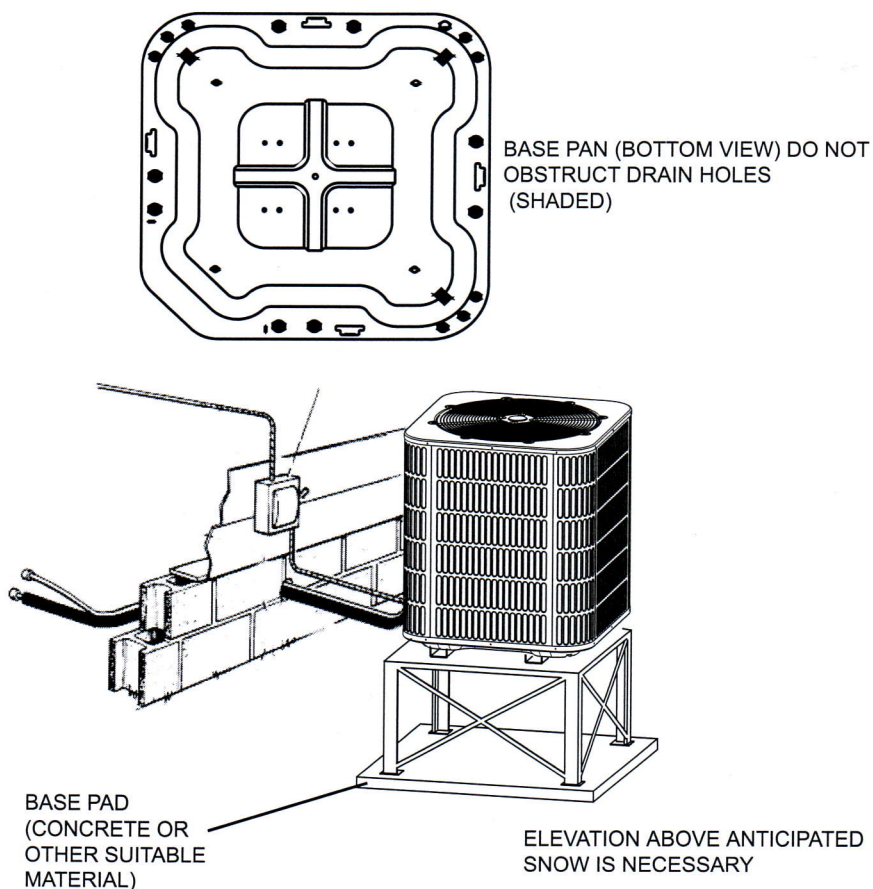

Fig.3 RECOMMENDED ELEVATED INSTALLATION
2. If elevating a unit on a flat roof, use 4"× 4"(or equivalent) stringers positioned to distribute unit weight evenly and prevent noise and vibration (See Fig.3)
NOTE: Do not block drain openings shown in Fig.3.